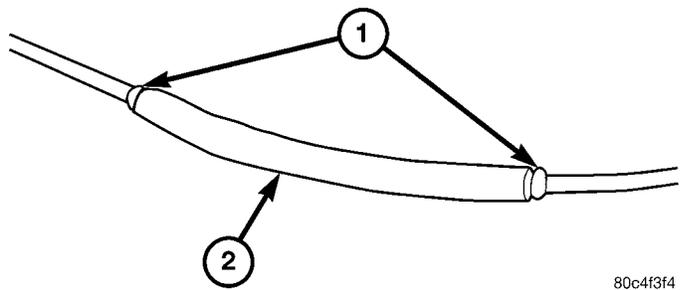

Fig. 17 HEAT SHRINK TUBE
(6) Center the heat shrink tubing over the joint and heat using a heat gun. Heat the joint until the tubing is tightly sealed and sealant comes out of both ends of the tubing (Fig. 17).